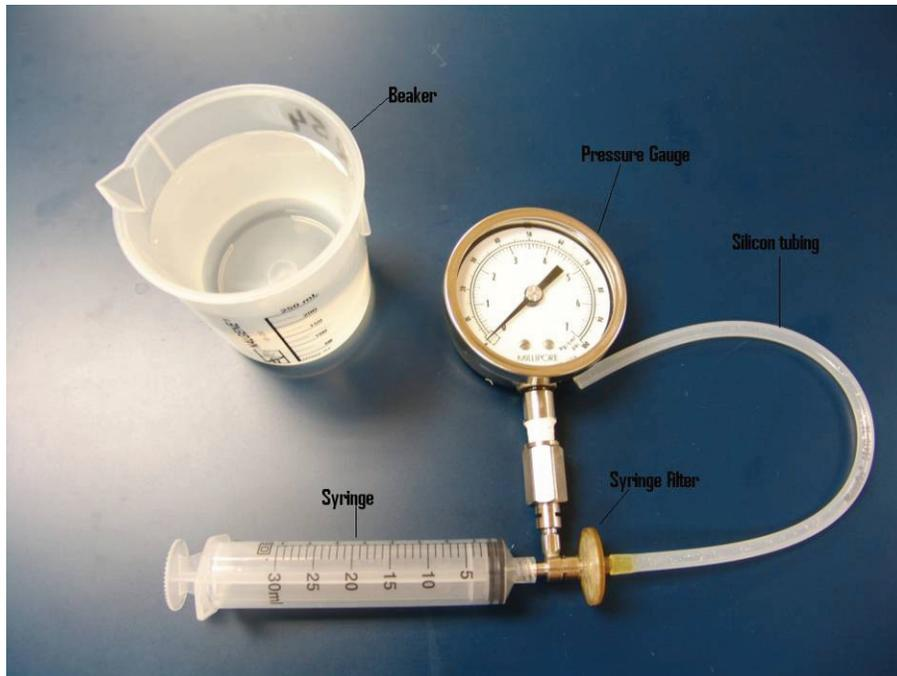

Figure 1: Bubble Point Assembly
8.6. Refer to Figure 1 for bubble point assembly and perform the following steps.
- 9.1. Figure 1: Bubble Point Assembly